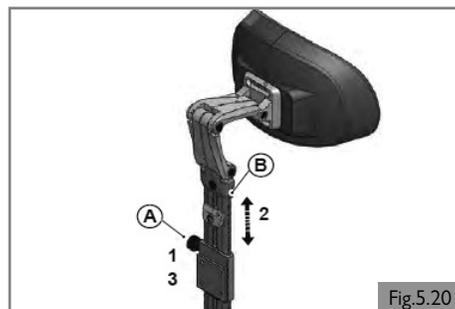
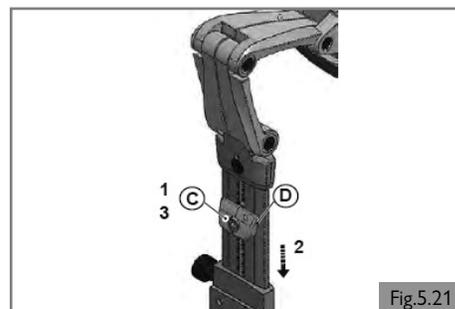
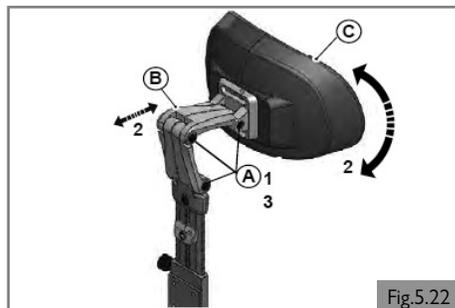

Fig.5.20
Fig.5.21
Fig.5.22
**Headrest height (Fig. 5.20)**
1. Loosen (A) a few turns.
2. Adjust (B) to the desired position.
3. Tighten (A). See section 9 for specified torque values.
**Fixed height setting (Fig. 5.21)**
1. Loosen (C) by one turn.
2. Slide (D) as far down as possible.
3. Tighten (C). See section 9 for specified torque values.
**Headrest position (Fig. 5.22)**
1. Loosen (A) by one turn.